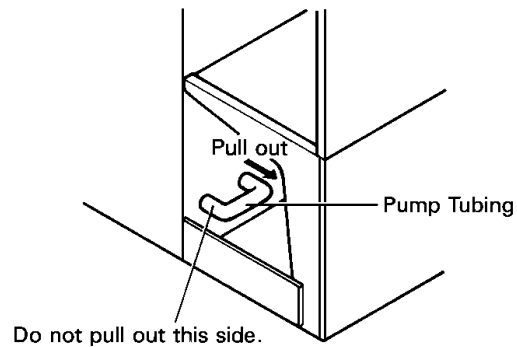

Fig. 11
- 8) Turn off the power supply. Remove one end of the Pump Tubing, and drain the Water Tank. See Fig. 11.
- 5) Remove one end of the Pump Tubing. Drain the Water Tank. Replace the Pump Tubing in its correct position. See Fig. 11.